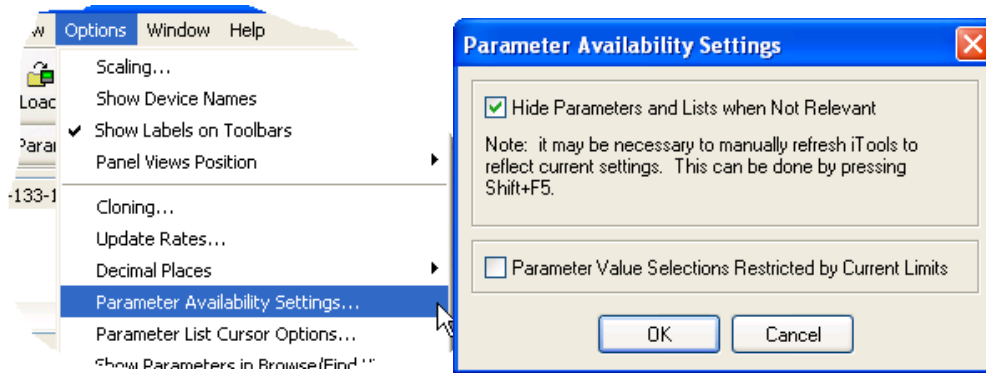

Figure 6.4.1b Show/Hide parameters
- Note: 3. Hidden Parameters. By default, iTools hides parameters which are considered irrelevant in the current context. Such hidden parameters can be shown in the table using the 'Parameter availability' settings item of the options menu (figure 6.4.1b). Such items are displayed with a shaded background.